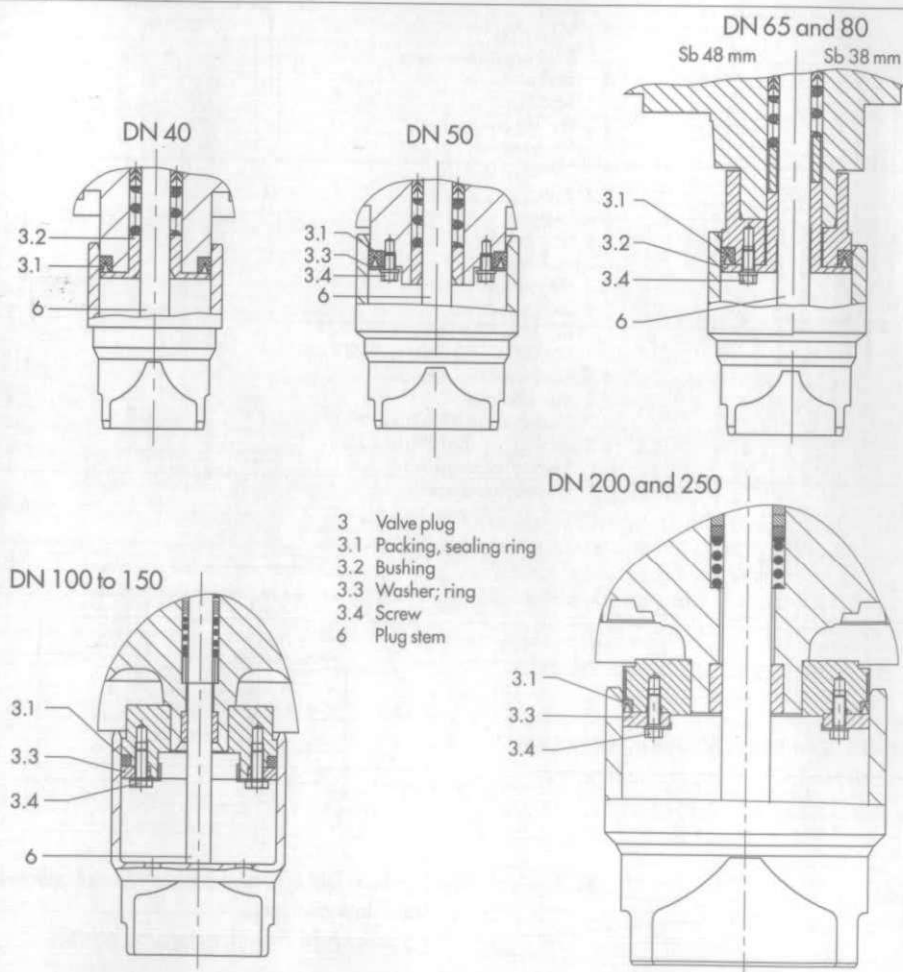

Fig. 9 · Balanced valve plug
5.4 Replacing the stuffing box packing (or sealing ring) for balanced valve plug (Fig. 9)